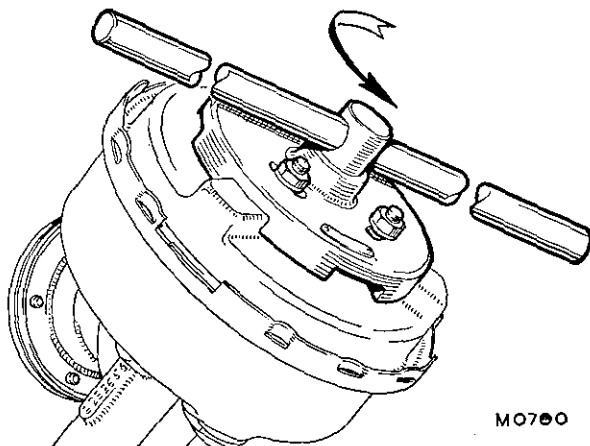

Fig. Mb.3
- (9) Use thumb pressure to prise the non-return valve from the servo shell and extract the rubber valve mounting.
- (10) To remove the end cover from the servo shell, locate Service tool C 2030* over the three studs and secure tightly with suitable nuts (see Fig. Mb.3). Turn the removal tool anti-clockwise with a $\frac{1}{2}$ in. (13 mm.) square drive socket 'T' bar as far as the stops on the cover will allow and lift off the cover.
- (11) Turn the diaphragm support so that the push-rod retaining key faces downwards. Apply light fluctuating hand pressure on the support into the shell; this will allow the retaining key to drop out, releasing the support from the push-rod under pressure of the main return spring. Extract the spring from the servo shell.
- (12) Bend back the locking tabs of the servo shell to slave cylinder securing bolts; remove the bolts, together with the locking and abutment plates. Lift off the servo shell and retrieve the joint washer from the mounting face of the slave cylinder.
- (19) Smear the outer edge of the rubber diaphragm with Lockheed Disc Brake Lubricant where it will contact the rim of the end cover and of the shell, and position the diaphragm evenly around the rim of the shell.
- (20) Refit and secure Service tool C2030* to the end cover (see Fig. Mb.3). Position the end cover with the shell so that the elbow will be in alignment with the air valve. Whilst maintaining a downward pressure on the cover, turn it clockwise as far as the stops will allow, taking care not to trap the edge of the rubber diaphragm. Remove the Service tool.
- (21) Push in the non-return valve with its rubber mounting.